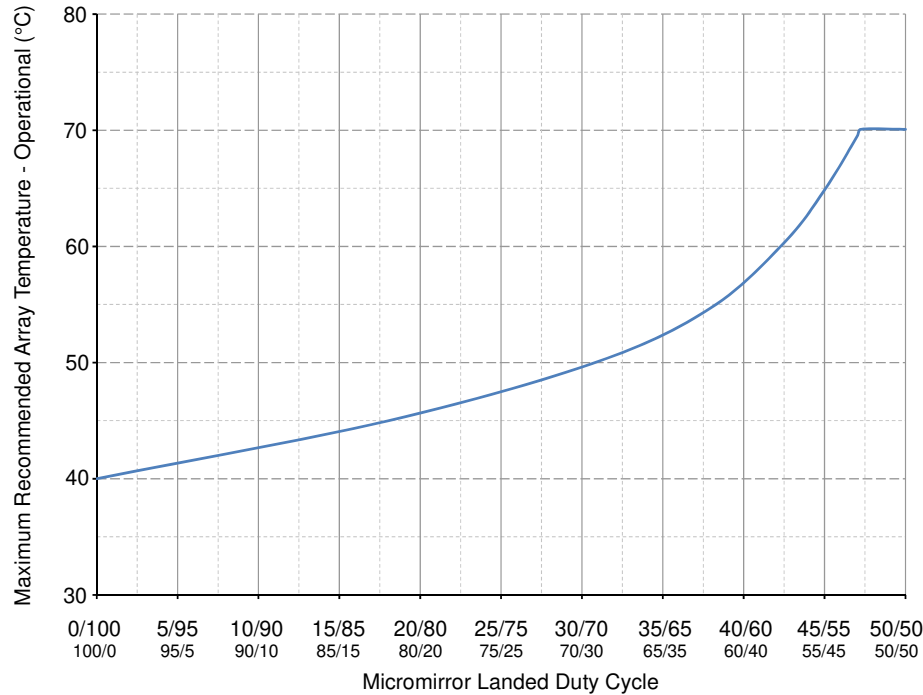

図 5-1. Max Recommended Array Temperature—Derating Curve
- (11) Long-term is defined as the usable life of the device.
- (12) Per 図 5-1, the maximum operational array temperature should be derated based on the micromirror landed duty cycle that the DMD experiences in the end application. See セクション 6.8 for a definition of micromirror landed duty cycle.
- (13) Short-term is defined as cumulative time over the usable life of the device.